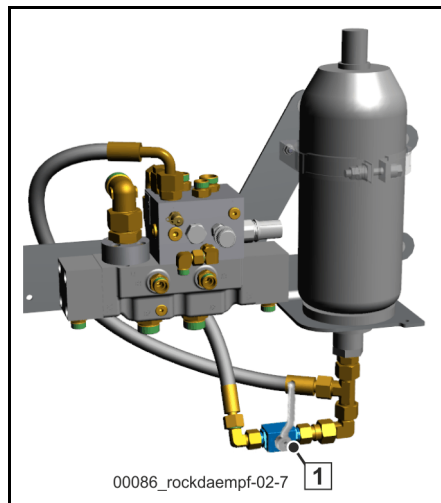

Fig. 495 Rock valve damping
- Move the ball valve (1) (**Fig. 495**) into a vertical position in order to enable Soft-Shift function a).